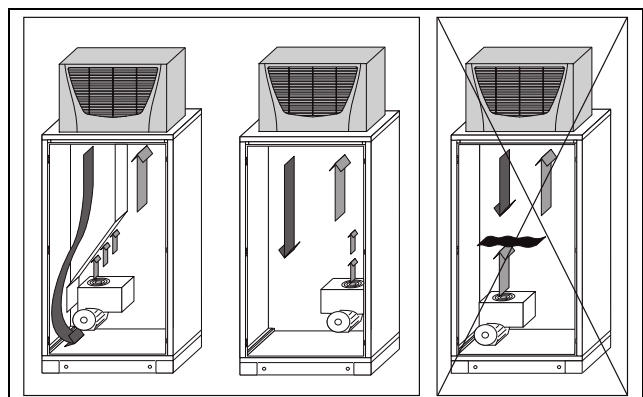

Fig. 3: Never direct the cold airflow at active components
- Exercise particular caution with the airflow from the blowers of built-in electronic components (fig. 3). Components for targeted air routing are available as accessories – please refer to the Rittal Catalogue.